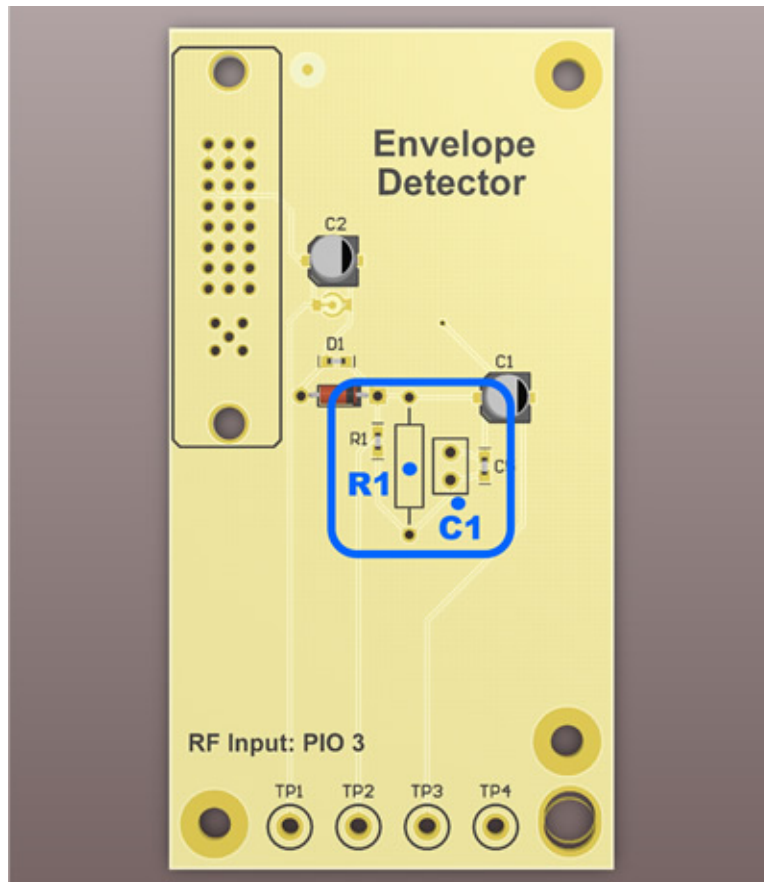

Figure 3. PCB locations for C1 and R1 on the Envelope Detector Module.
* The envelope detector has been fabricated as a module, which is to be plugged-in to the modular backplane. This module has provisions for inserting the selected C1 and R1 components. Locations of these components are shown in Figure 3 below. **NOTE:** There is a RefDes on the board 'C1' in black silkscreen. This is NOT the C1 as above. The actual RefDes is C5 on the board. You will plug in the resistor and capacitor leads into the sockets in these positions.